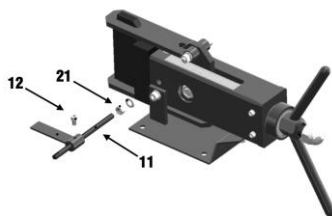

Fig. 3
1. Place the M8 lock nut (#21) on the end of the rod (#11) and tighten to the end of the threads (Fig. 3).
3. Assemble the M6 x 10 screw (#12) to the workpiece stop then slide the workpiece stop assembly onto the rod in the desired position and tighten the nut (Fig. 3).